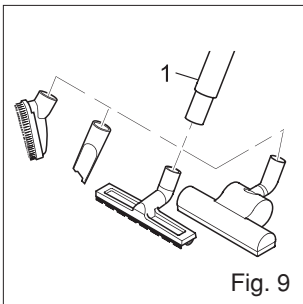

Fig. 9
- 3) Attach the required nozzle to the bottom end of the telescopic tube (Fig. 9/1).